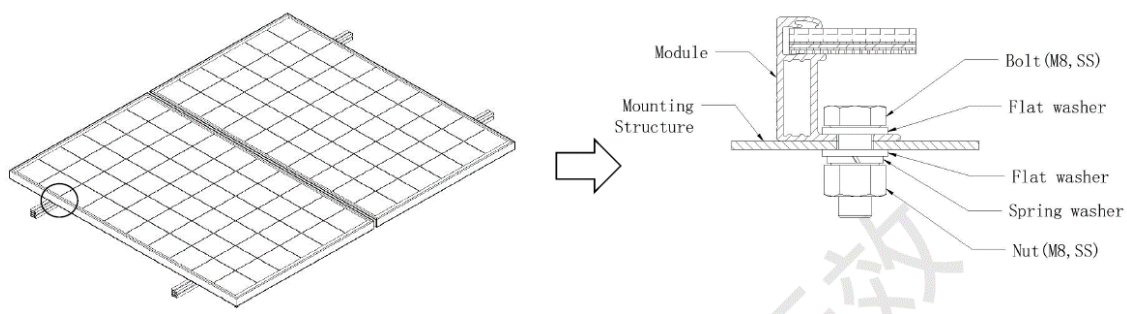

Figure 3 Mounting holes
- ◆ **Mounting hole system:** Use the corrosion-resistant bolt, for fixing with the installation support through the installation hole in the side frame of the module, as shown in Fig. 3.